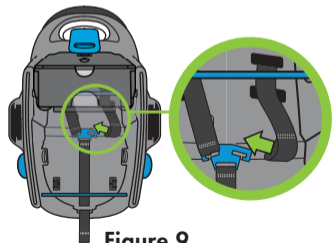

Figure 9
- Hold the silver Metal Harness Plate straight up ensuring there are no twists in the Harness Adjuster Strap, and slide the loop end of each Shoulder Harness Strap through the slot in the Metal Harness Plate, ensuring that each Strap is completely inside the slot, as shown in **Figure 9**.